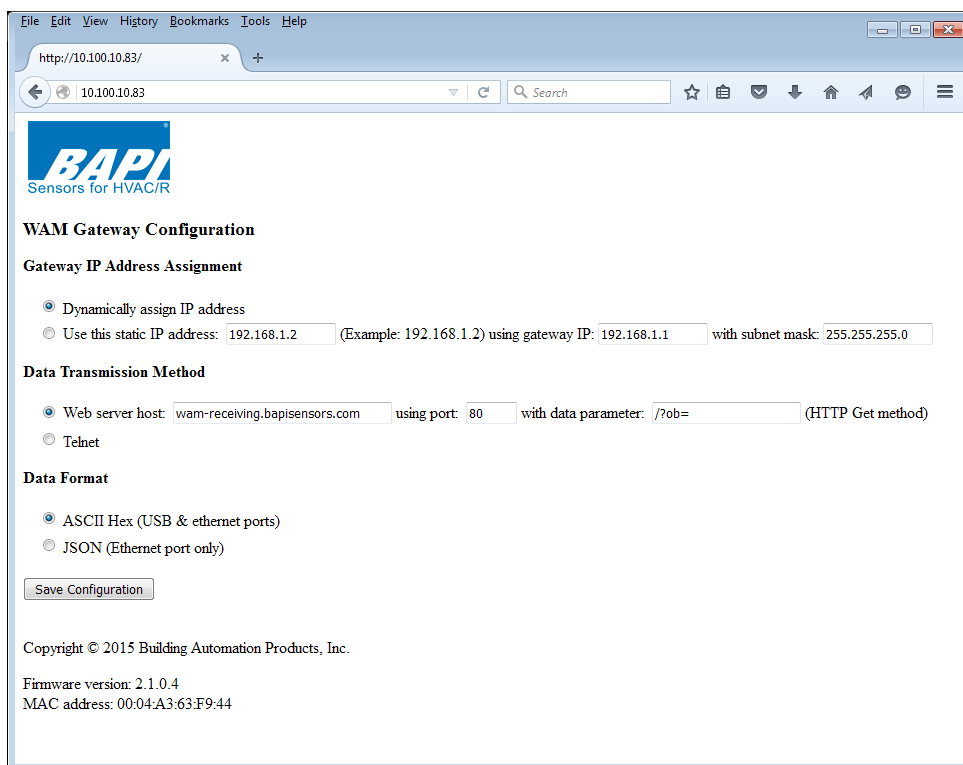

Fig. 9: WAM Gateway Configurator Display (default settings)
The WAM Gateway is shipped with default settings as DHCP and the BAPI Web site IP address. This is easily changed by the WAM Gateway Configurator which is accessed through a typical web browser using the IP address of the WAM Gateway. (You may need to run the Discover tool described earlier to find the DHCP address) The screen capture of the WAM Gateway configuration page Fig. 9 is displayed with default settings shown. Be sure to note what each value was and what it was changed to.
2. The screen as shown in Fig 9 will be displayed with all the last known settings. The screen below shows the default settings from the factory.